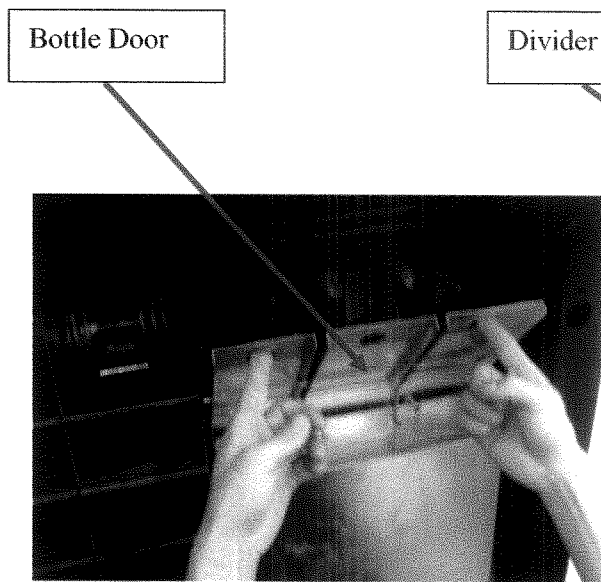

Figure 14 – Pull bottle door “up” then “out”.
- a. Open the bottle door by pulling “up” then “out” (*reference figure 14*).